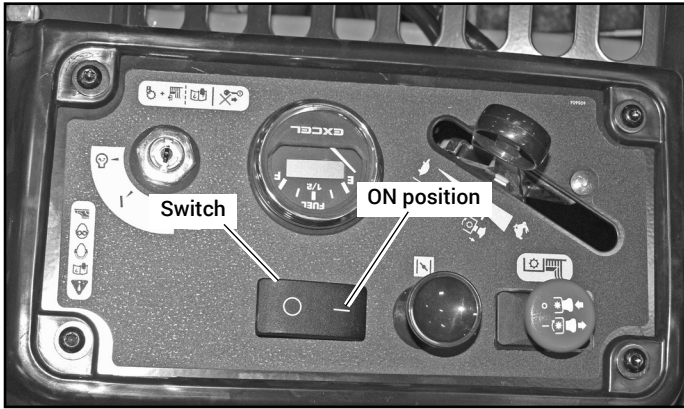

FIG. 6
10. Make sure that the "ON" position of the switch is facing forward and snap the switch into the slot. FIG. 6